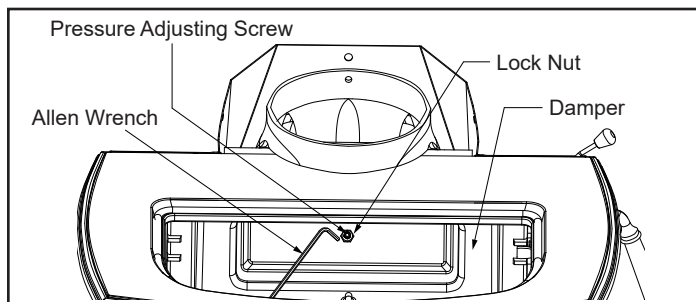

**Figure 3.2** - Adjust the damper with the Allen wrench.
1. Remove the griddle. Loosen the lock nut at the center of the damper. (Figure 3.2)